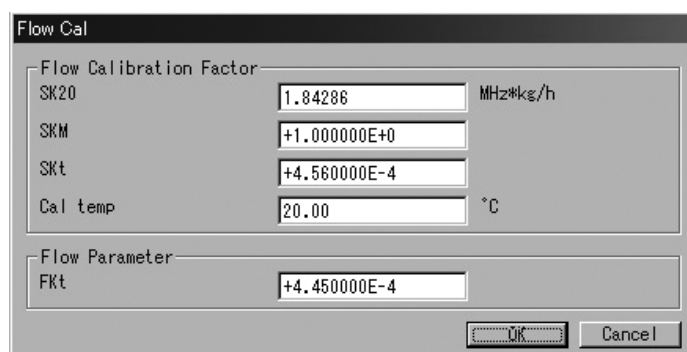

Fig.61
- ① Click on "Setup (S)" at top-level menu of the screen, select "Flow Cal" from "Charize sensor" drop-down list, and click on again.
- ② A message box as shown in Fig. 61 appears. At this window, the flow calibration factor is set up.